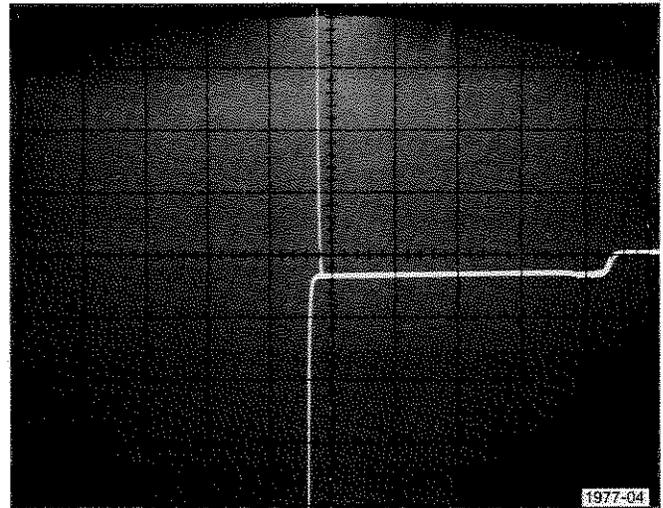

Fig. A-4. Check of LM324 — input bias current.
b. Check that the vertical display is ≤ 5 divisions from the zero reference point (≤ 500 nA, see Fig. A-4).